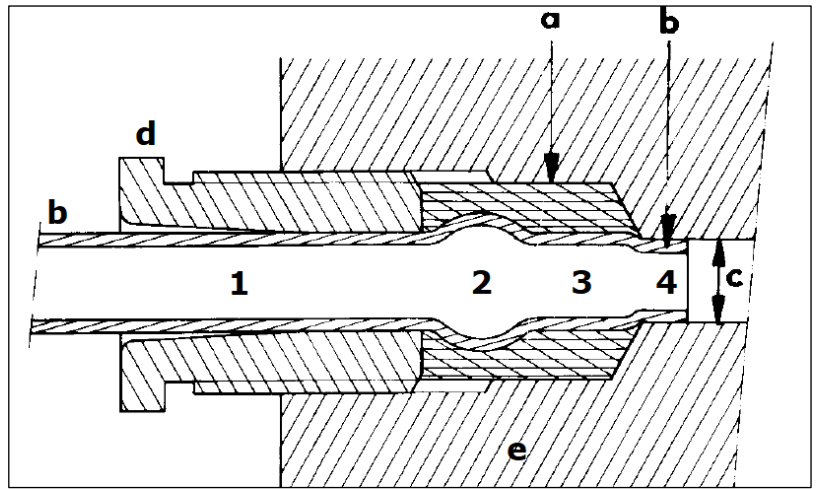
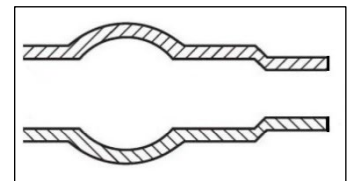
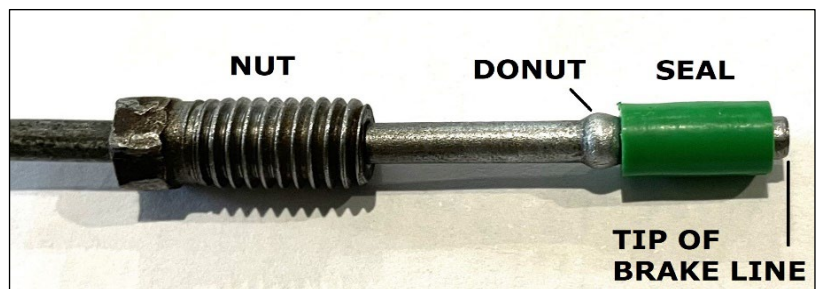
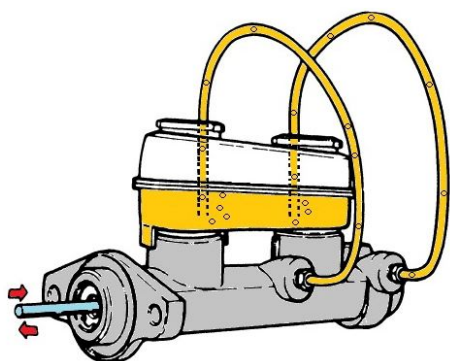

Fig. 2-6
Fig. 2-7
Fig. 2-8
Fig. 2-16 Bench bleeding arrangement
Fig. 2-6 shows the rubber brake line seal 'a', the metal brake line 'b', the fluid opening 'c', the nut 'd' and the fixture 'e'. The brake line diameters at 1 and 3 are identical. The tip of the brake line at 4 is slightly smaller in diameter than at 3, and the brake line shoulder, situated between the diameters '3' and '4', rests against the fixture at the entrance to the opening 'c'. The expanded section at 2 is known as a 'donut' and pushes the seal 'a' against the fixture 'e'. Fig. 2-7 is an enlargement of the end section of the brake line shown in Fig. 2-6. Fig. 2-8 shows a brake line end with a seal fitted, ready to be inserted.
- Fit the seal onto the end of the brake line to a position where about 1mm of the tip of the brake line is exposed as shown in Fig. 2-8.
- Gently insert the brake line and seal into the fixture, ensuring the tip 'b' enters the opening 'c'. You may feel the tip drop into the opening as you slightly move the brake line sideways while pushing it in. Continue gently pushing the brake line in by hand to where it will not enter any further. At this point, the brake line shoulder between diameters 3 and 4 should be contacting the entrance to opening 'c', as depicted in Fig. 2-6, and the seal is positioned correctly.
Fig. 2-16, adapting as necessary. The writer used the cut-off end sections and nuts from two old brake line sections (cut to about 75mm in length, per Fig. 2-8) to connect to the fluid outlet ports.
- g. Using the wooden dowel, **slowly** push and **slowly** release the piston inside the open end of the master cylinder (the "pushing" end). In Fig. 2-16, the pushing end is on the left, with the wooden dowel is coloured blue. Ensure the dowel is gently pushed in until slight resistance is felt at the end of its travel. Don't push it any further than that. You will observe brake fluid and air being expelled from the master cylinder fluid outlet ports and back into the reservoir through the clear tubes.